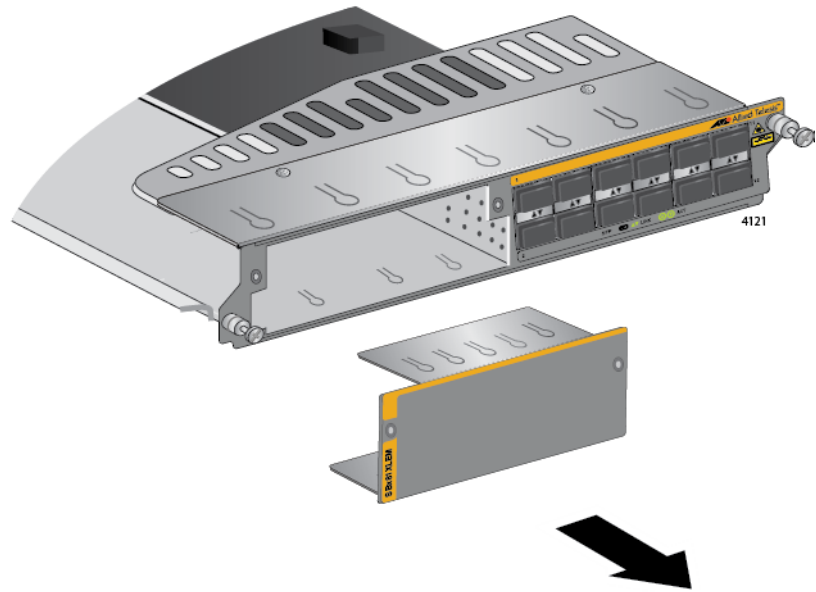

Figure 79. Removing the Blank Slot Cover from the AT-SBx81XLEM Line Card
5. Slide the blank slot cover from the slot. Refer to Figure 79 on page 150.